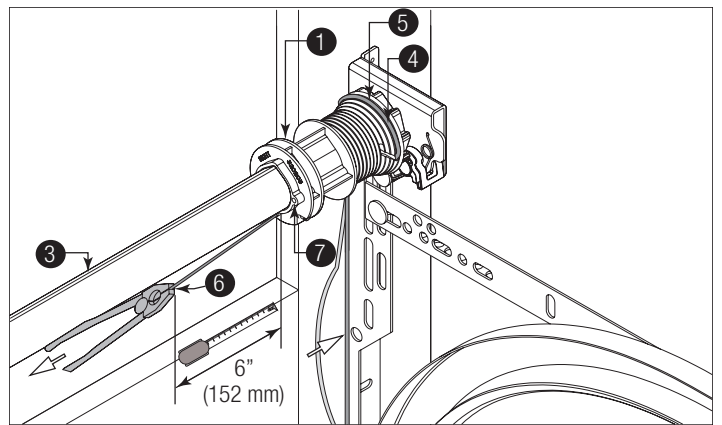

Figure 48, Right Side Shown
See Figures 48 through 50 for the following steps.
**NOTE:** Figures 48 through 50 shows the right side cable drum assembly. Repeat the process for the left side.